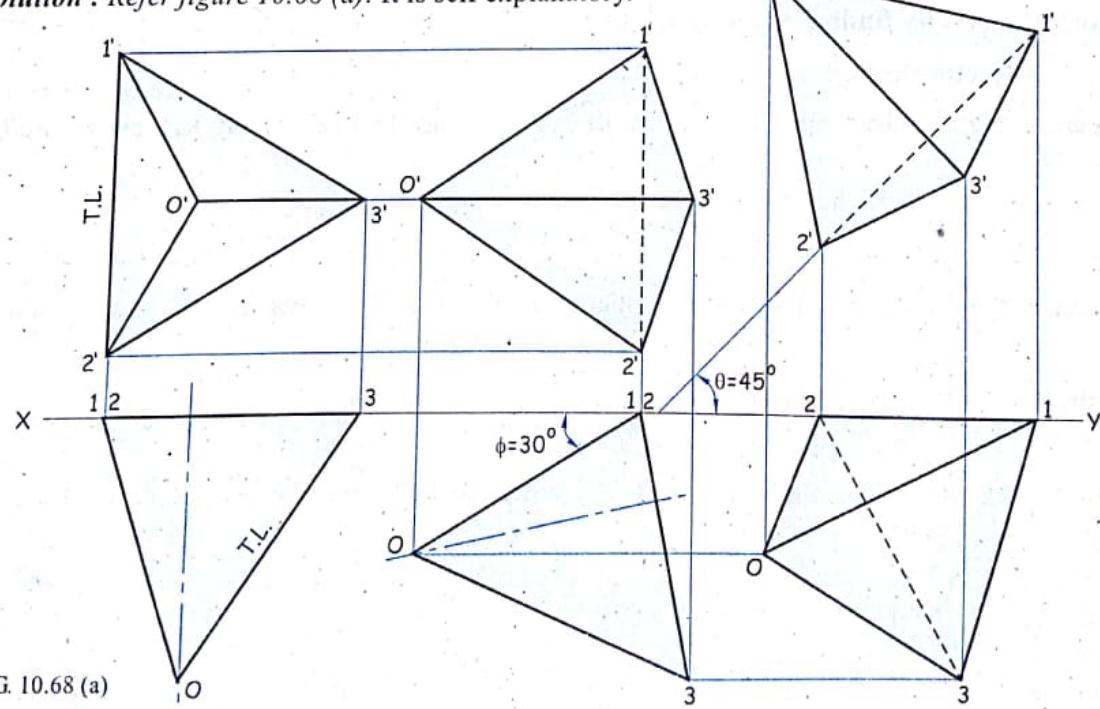

FIG. 10.68 (a)
**Solution :** Refer figure 10.68 (a). It is self explanatory.